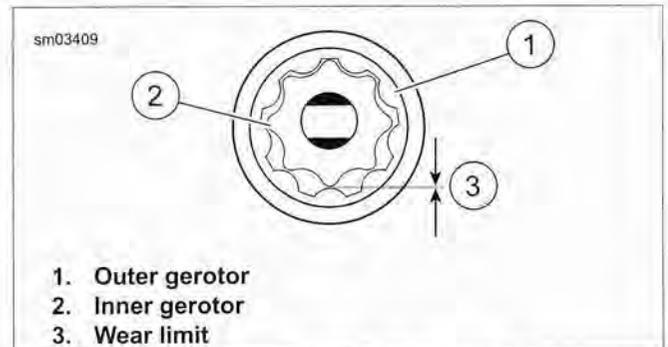

Figure 3-133. Gerotor Wear Limits
2. See Figure 3-133. Inspect both gerotor sets for wear.